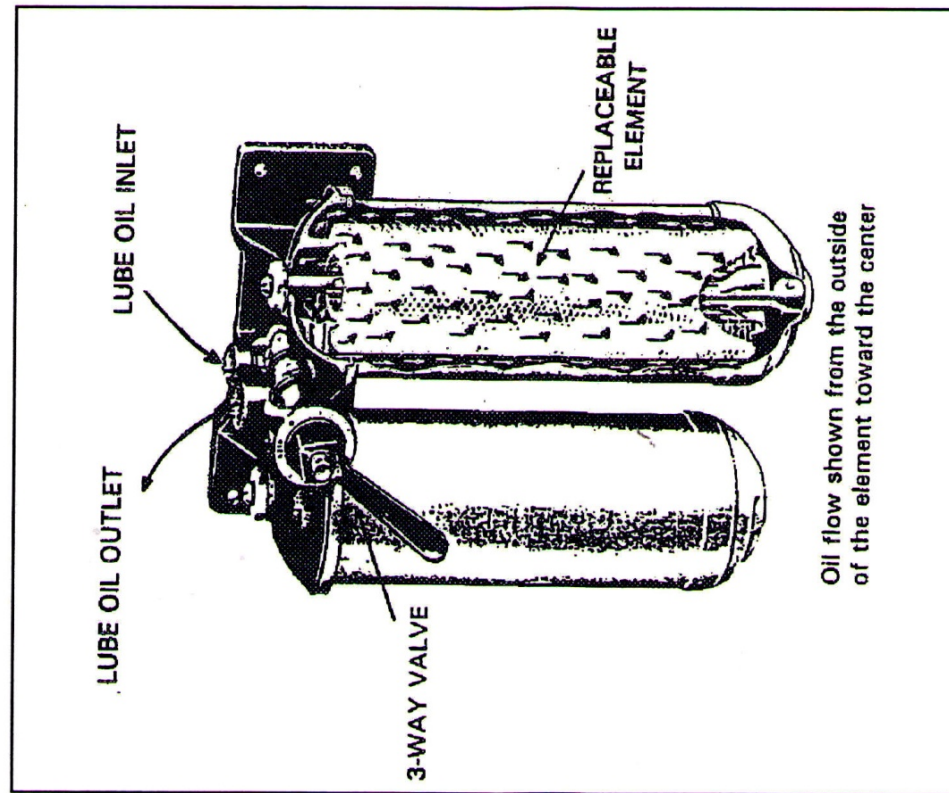

Figure 5-9 Lubricating Oil Filters
5.2.4 Lube Oil Filters (Figure 5-9)